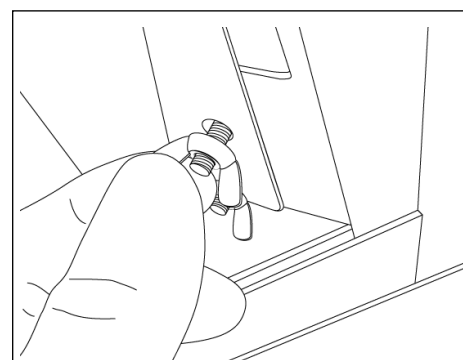

Figure 6-2
4. Loosen the wing nuts on the light support bracket in order to access the light (Figure 6-2).